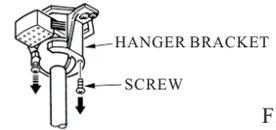

FIG. 9
3. Remove one of screws and loosen the other screw from the hanger bracket. (see Fig.9)